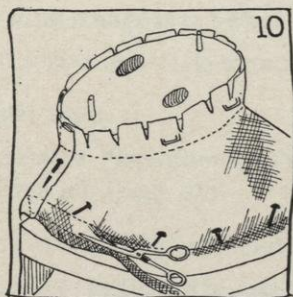

FIG. 10.
- (1) Remove staples at edge only.
- (2) Cut the brim $\frac{3}{8}$ inch larger than desired (see Figure 10).
- (2) Cut the brim $\frac{3}{4}$ inch larger than desired (see Figure 10, page 57).